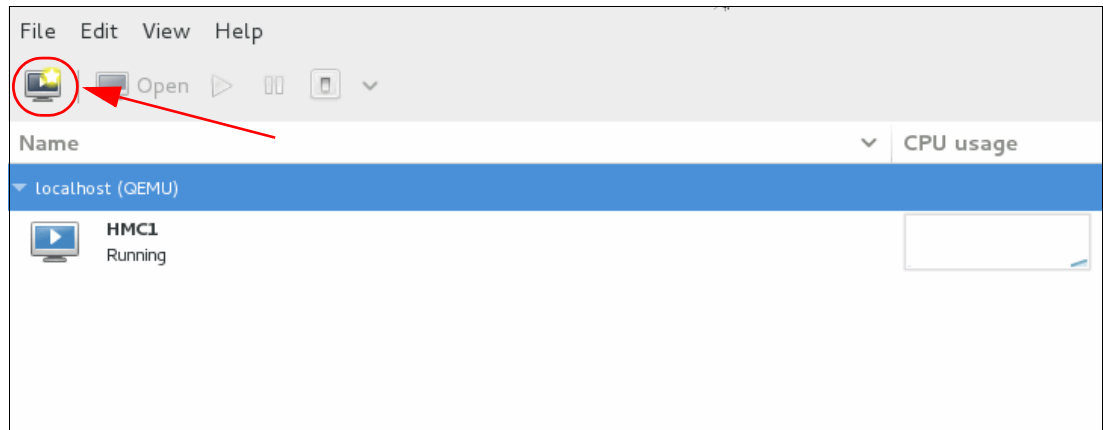

Figure 3-46 Create a new VM for deployment
6. You can now start creating your new virtual HMC by clicking the **New Virtual Machine** icon (Figure 3-46).